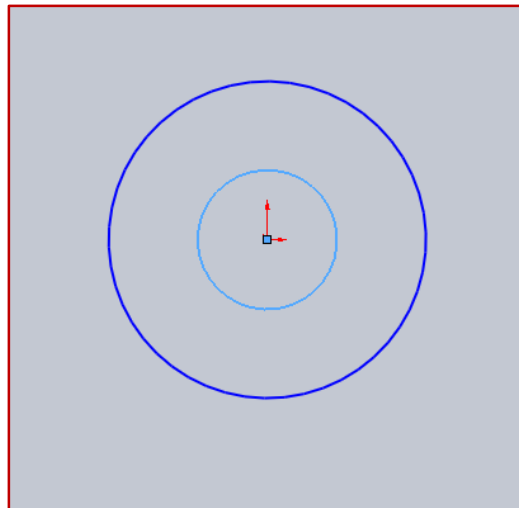

Figure 5.1 – Sketch for TopSpacer
- ✓ Sketch two concentric circles as shown in drawing SKBD113 in Appendix A and in Figure 5.1.
- ✓ Use **Smart Dimension** to add the inside diameter and the outside diameter in Figure 5.1. The dimensions can be found in drawing SKBD113 in Appendix A.